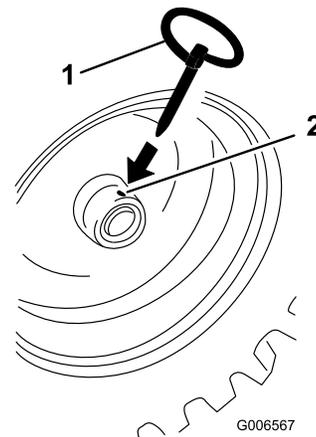

Figure 5
- Slide the wheels outward and insert each axle pin through the hole in each wheel hub and through the **outer** hole of the axle (Figure 5).